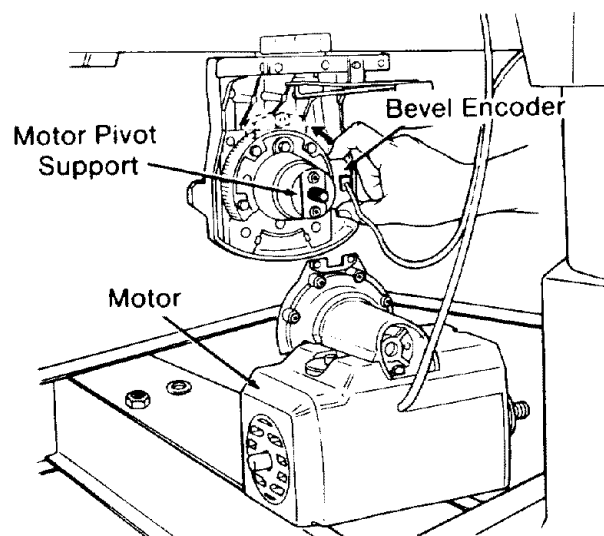

Fig. 13C
7. Remove the lock nut and flat washer from the *motor pivot support*. (Figure 13C)
8. Slide the *bevel encoder* to the top center position so it will fit into the notch on the *motor support bracket*. (Figure 13C)